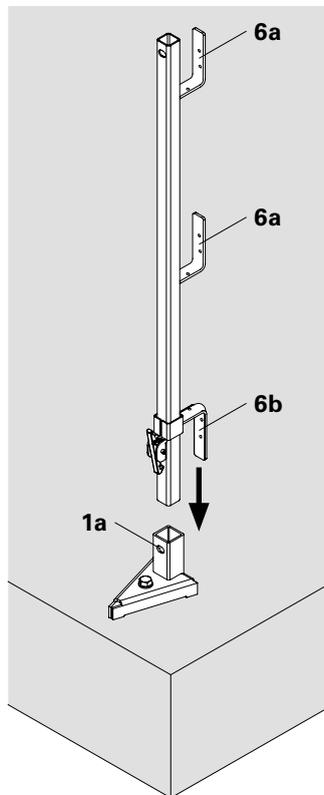

Fig. A3.01
Insert Post (6) in the rectangular tube of the post connection, e.g. the Slab Foot. (Fig. A3.01 + A3.02)